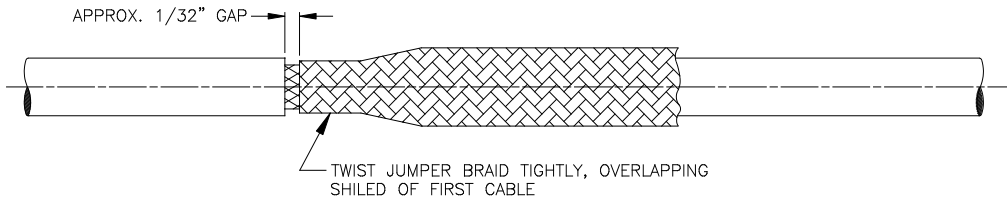

Figure 2
- A. Slide the SolderSleeve onto second cable. Slide jumper braid over splice assembly. End of jumper braid should overlap shield of first cable. Twist jumper braid down tightly on shield of first cable (see Figure 2). Jumper braid should not overlap cable jacket.